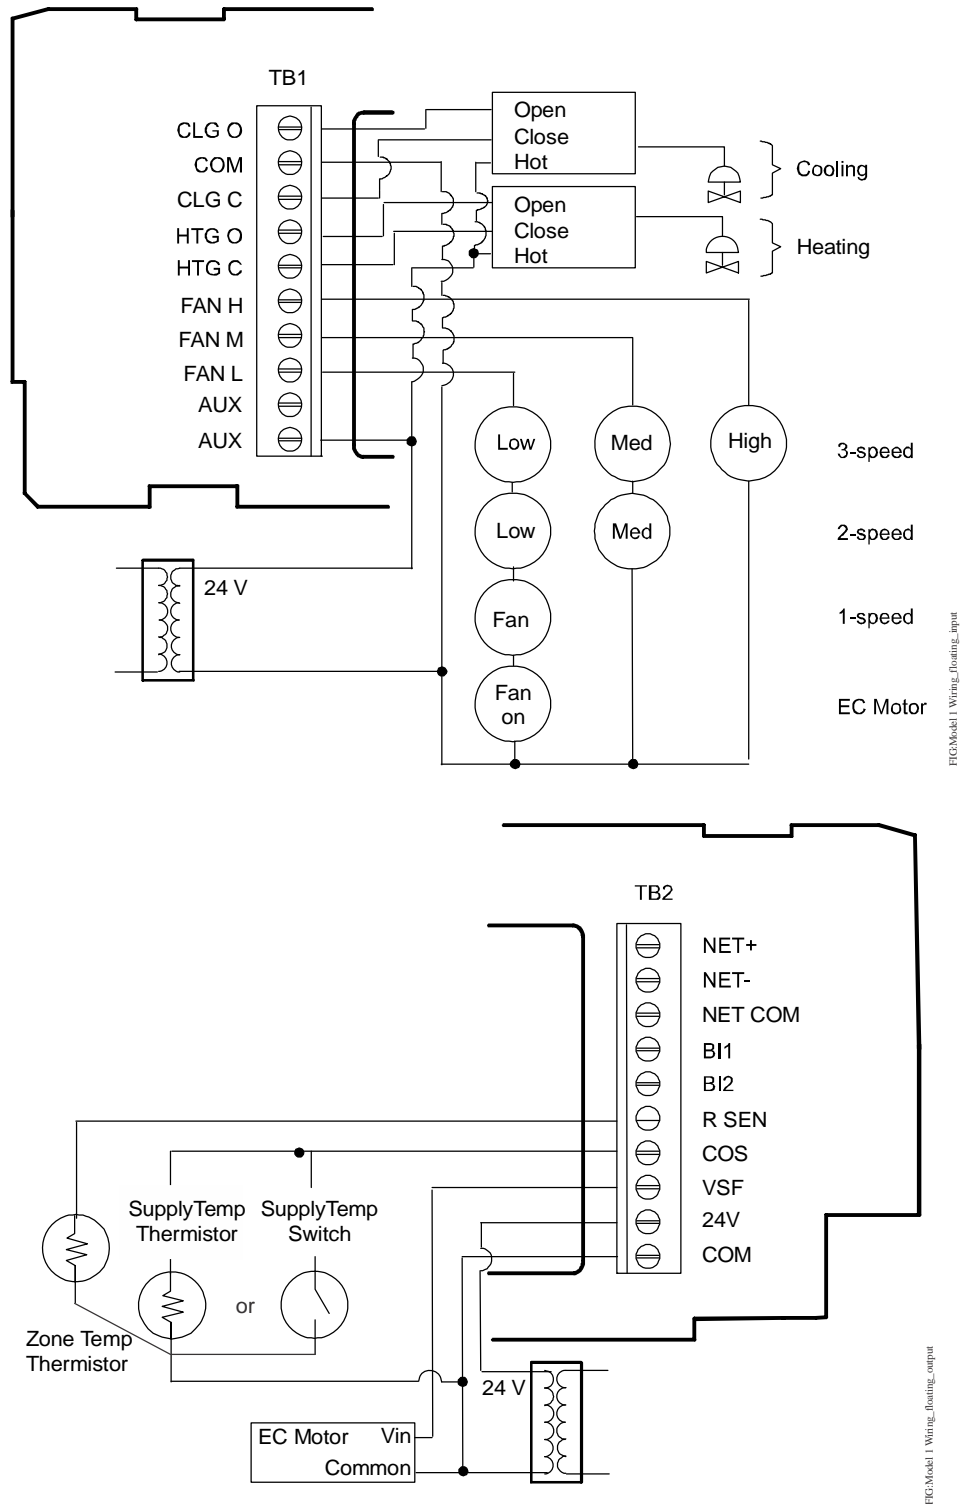

Figure 11: Floating Wiring Diagram (See Table 2 for Terminal Identification)
1. Strip the ends of each wire 1/4 in. (6 mm) and connect them to the appropriate screw terminals as indicated in Table 2 and Figure 10 or Figure 11.
Table 2: Terminal Identification (See Figure 10 and Figure 11 for Wiring Diagrams)